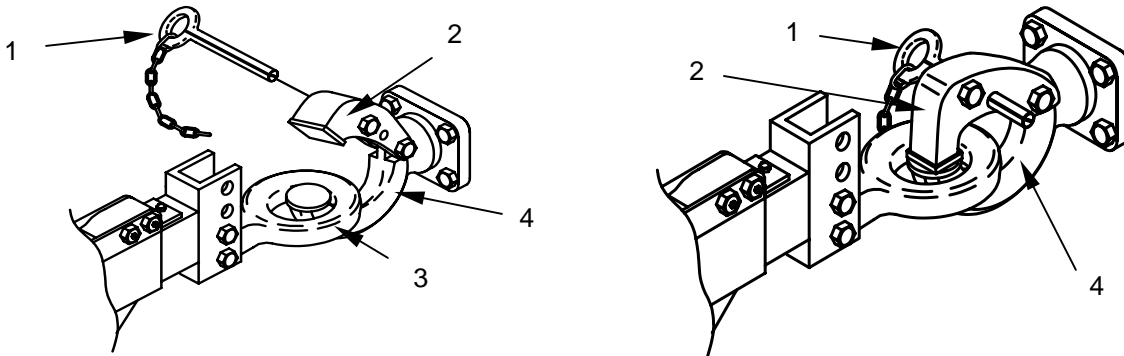

Figure 6. Connecting WWET/T to Prime Mover
6. Remove lock pin (**figure 6, item 1**) on towing pintle (**figure 6, item 2**) and open pintle.
7. Slowly back up prime mover until trailer lunette eye (**figure 6, item 3**) is centered over lower part of towing pintle (**figure 6, item 4**). Lower the trailer with the jack until the lunette eye sits on the lower part of the towing pintle. Close towing pintle and install lock pin.